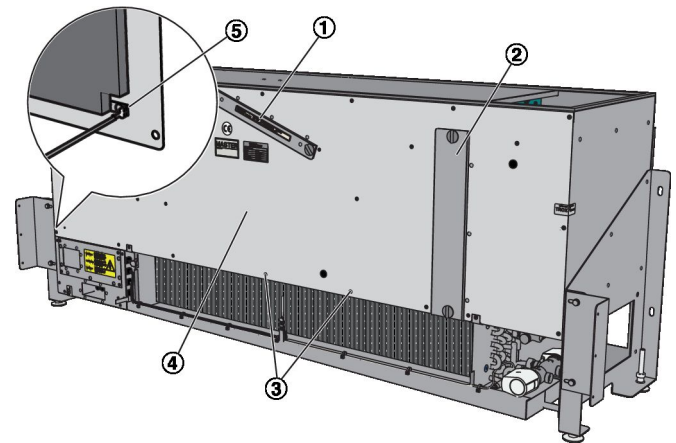

Fig. 35: Removing the cover plate (SCHOOLAIR-B)
3. ▶ Remove the extract air filter (Fig. 35/1) and remove the filter chamber cover (Fig. 35/2) from the outdoor air filter chamber.
- ▶ Remove the cover plate (Fig. 35/4) by loosening all the Phillips screws (Fig. 35/3) on the plate.
Disconnect the protective conductor (Fig. 35/5) when you remove the plate.